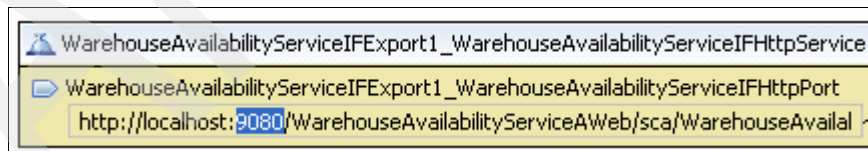

Figure 7-21 WarehouseAvailabilityServiceA Web service URL
4. Look at the Web service URL, and change the port to the port that you identified previously, 9080, as shown in Figure 7-21.